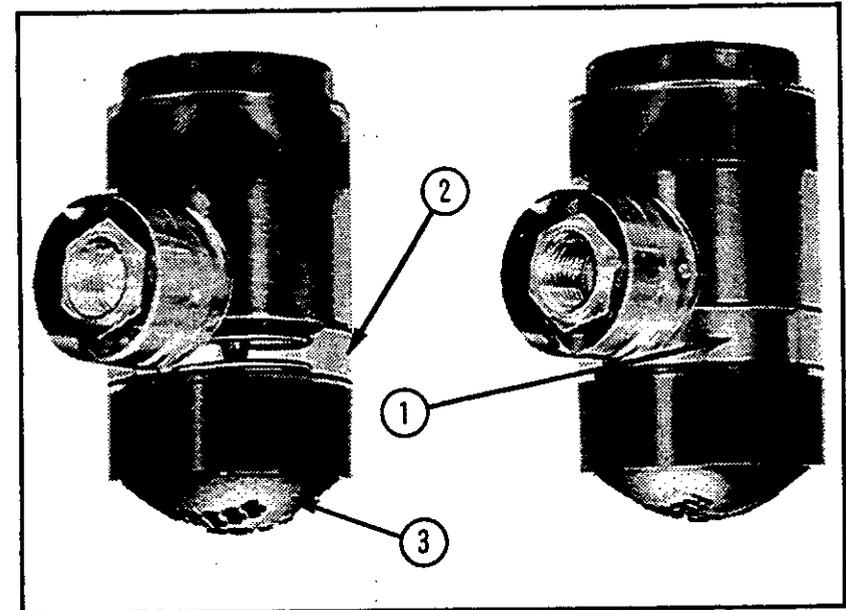

Fig. 10 Restriction indicator
When the red warning indicator (1, fig. 10) is seen through the clear panel (2) after the engine has stopped, the air filter element must be removed for service.